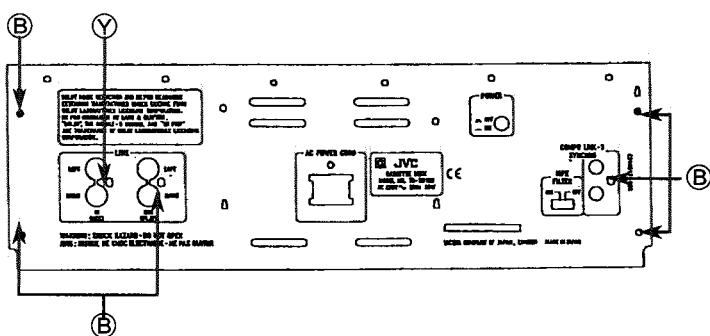

Fig.6 Rear view
- 2) Remove 7 screws ②, ⑤ on the rear side and 4 screws ② on the bottom side to remove the rear panel. (See fig.6,7.)
- 3) Remove 4 screws ④ which fasten the cassette mecha. ass'y and the front base, 2 screws ③ fastening the main PCB. and 4 screws ① which fasten the power transformer. (See Fig.-8.)
- 5) Remove 8 screws ② fastening the bottom cover to remove it.